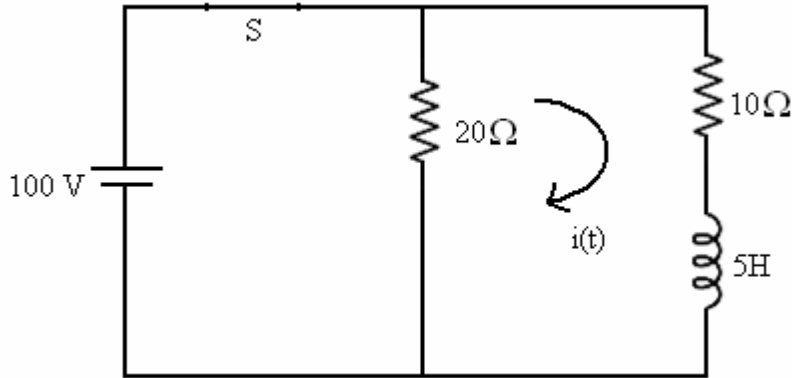

Figure. 1
- 1.a) For the below circuit (Figure. 1), find the current equation  $i(t)$ , when the switch is opened at  $t = 0$ .